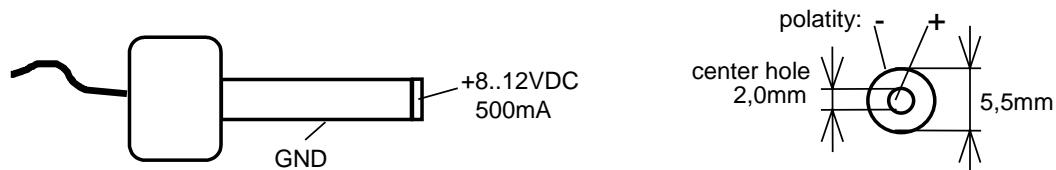

Figure 3: Power Connector
- Using the supplied power adapter, connect the power socket on the board (P3) to a power supply (*refer to Figure 3 for the right polarity*).